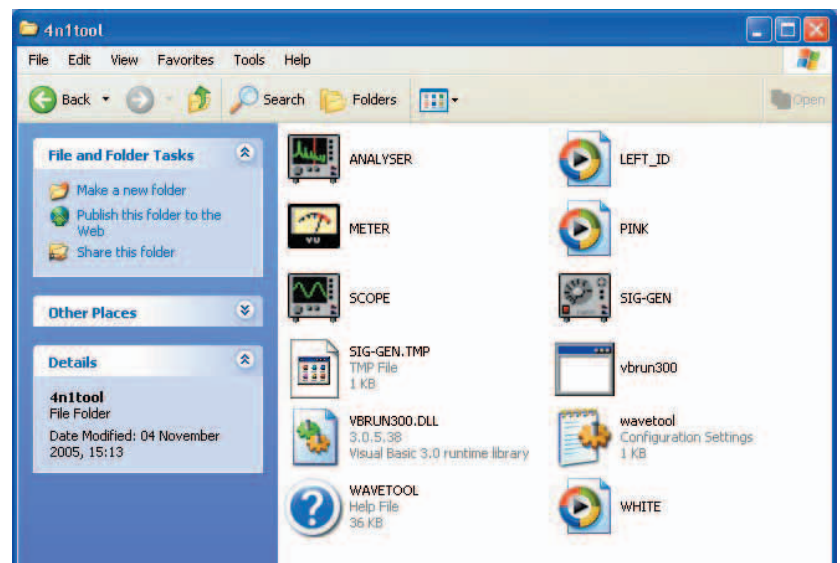

Fig.7.20. The various Wave Tools are located in the 4in1tool folder
- Download the Wave Tools software from [www.miketooley.info](http://www.miketooley.info) (click on the Downloads tab). The software consists of a number of files stored in a single compressed folder called **4in1tool**. Transfer the folder to your PC and store it in a folder of your choice (for example, C:\wavetools\). Unzip the folder so that all of the files are present in the same directory – see Fig.7.20. If desired, create a shortcut on your desktop to the executable files: